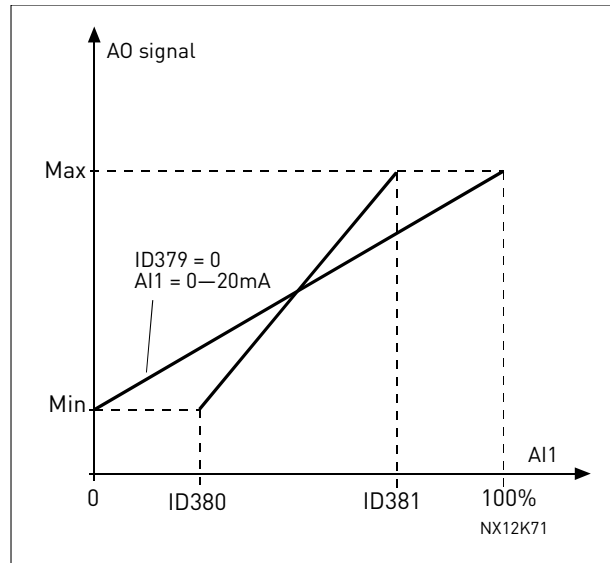

Figure 11. AI1 no signal inversion
**Note:** Parameter ID379 *A11 signal range* is inactivated if ID380  $\neq$  0% or ID381  $\neq$  100%. See also Figure 11.